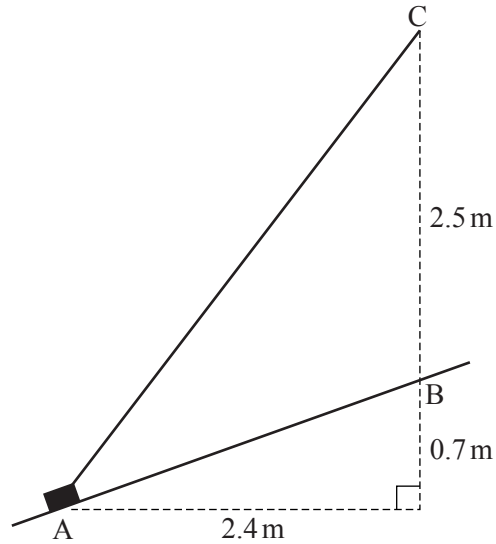

Fig. 3
- 3 The fixed points A and B lie on a line of greatest slope of a smooth inclined plane, with B higher than A. The horizontal distance from A to B is 2.4 m and the vertical distance is 0.7 m. The fixed point C is 2.5 m vertically above B. A light elastic string of natural length 2.2 m has one end attached to C and the other end attached to a small block of mass 9 kg which is in contact with the plane. The block is in equilibrium when it is at A, as shown in Fig. 3.